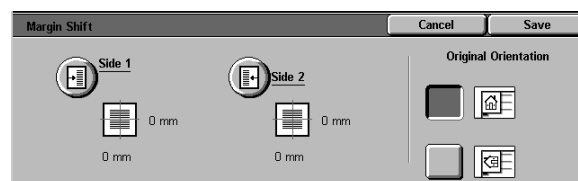

Figure 19: Margin Shift screen
- 1 Touch the **Margin Shift** icon on the Added Features tab to display the Margin Shift screen, as illustrated in Figure 19.